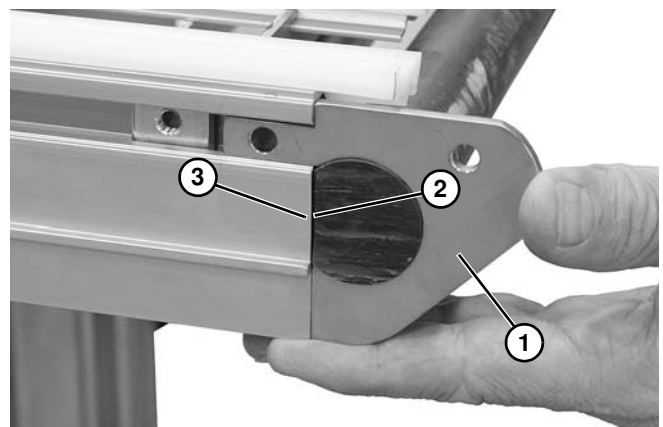

Figure 63
6. When re-installing idler tail (Figure 63, item 1) with wear bar, make sure that the flat end (Figure 63, item 2) of the wear bar is flush against the conveyor (Figure 63, item 3).